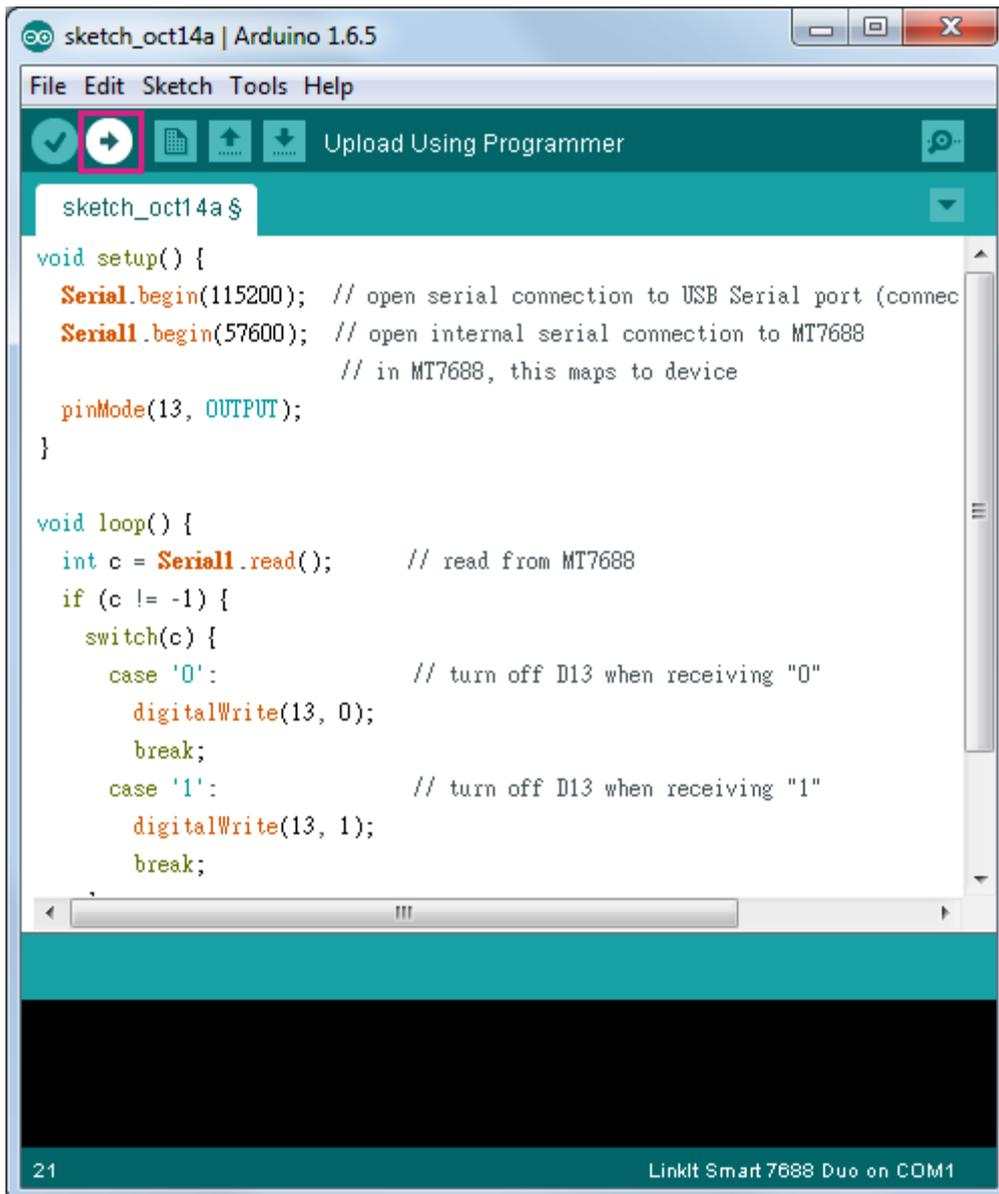

Figure 56 Upload Sketch in Arduino IDE
- 3) Upload the sketch to the board as shown in Figure 56. Note the board is not blinking yet – you’ll need to write a program in the Linux side to make it blink, which is the next step.